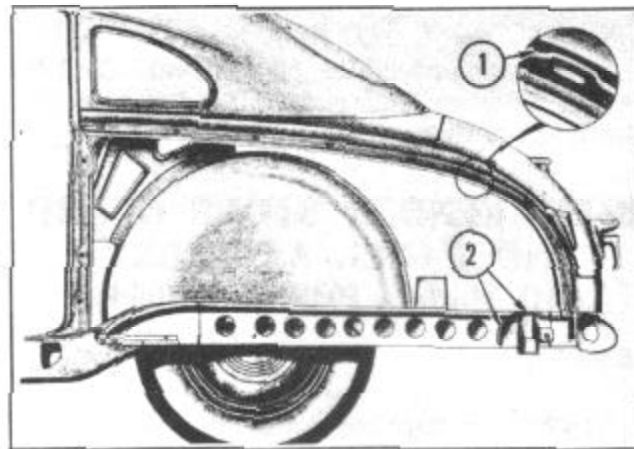

FIGURE 108
**NOTE: Before installing rear fender apply a bead of Permagum No. 576 Sealer, starting from base of rear door hinge pillar and crossing quarter panel flange to frame at rear and to area at 2 as shown in Figure 108. Care must be taken to assure that the bead of sealer is unbroken and does not cross any fender attaching bolt holes.**